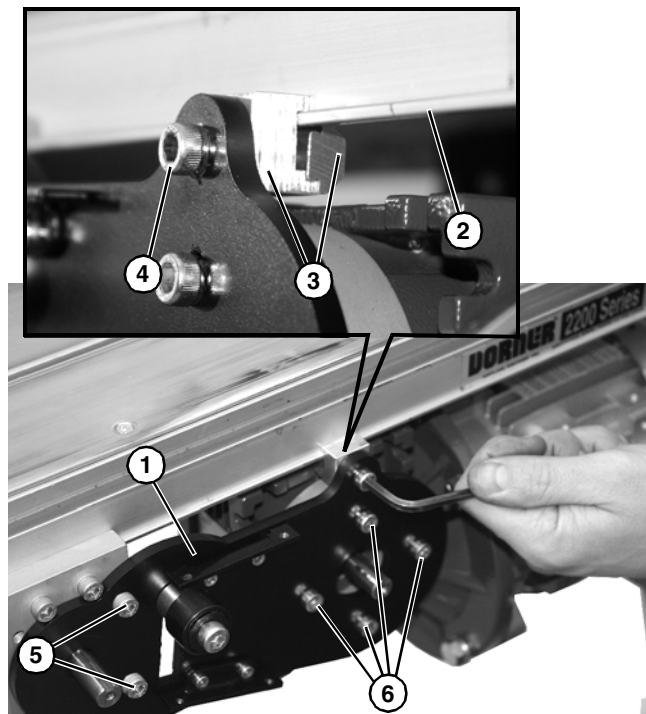

Figure 2
2. Install gearmotor and plate (Figure 2, item 1) onto conveyor frame channel (Figure 2, item 2) with retaining clip assembly (Figure 2, item 3) and socket head screw (Figure 2, item 4).w Secure bottom with two socket head screws (Figure 2, item 5). Do not tighten screws at this time.
3. If required, change gearmotor position by removing four (4) screws (Figure 2, item 6). Rotate gearmotor to other position and replace screws. Tighten to 103 in-lb (12 Nm).